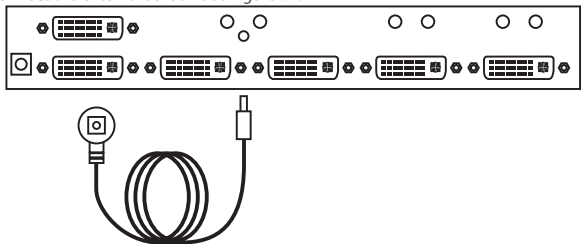

Figure 5-3. Connecting the external sensor.
1. Connect the external sensor. See Figure 5-3.